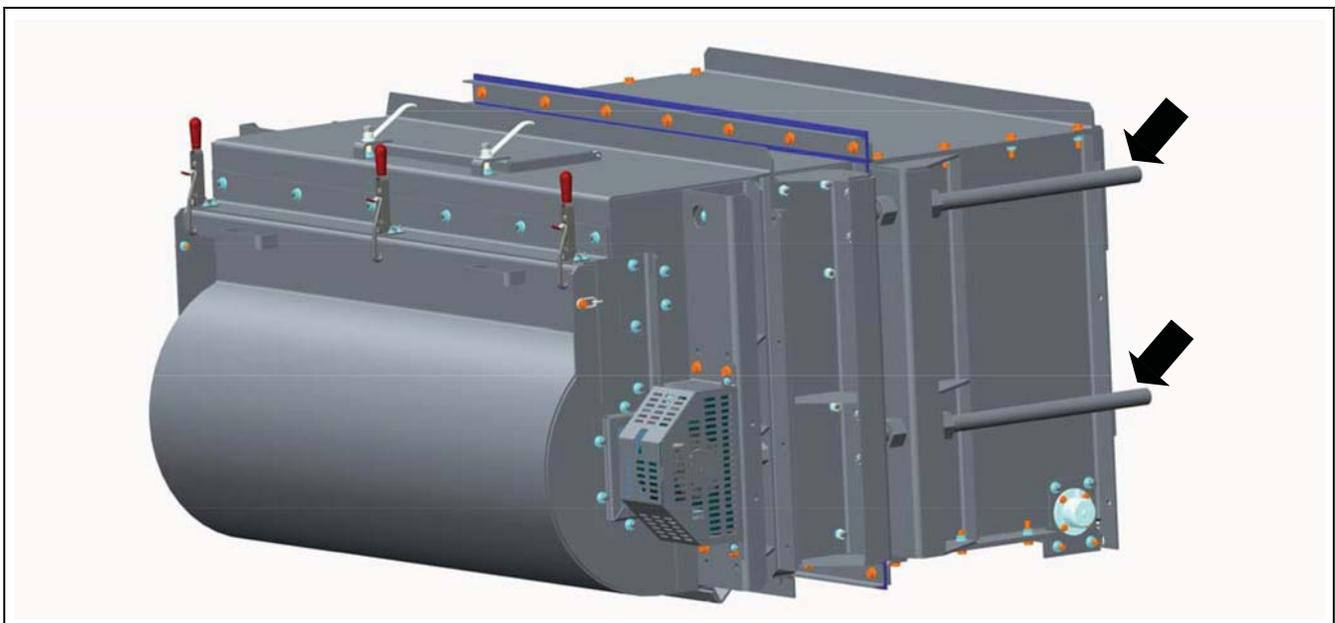

Figure 4R Belt Take-Up Mechanism
3. Each conveyor is provided with a screw type take-up mechanism. (See Figure 4R.)
12. Adjust the belt take-up mechanism using the same number of turns both side of the conveyor and on each take-up screw. (See Figure 4R on Page 32.)